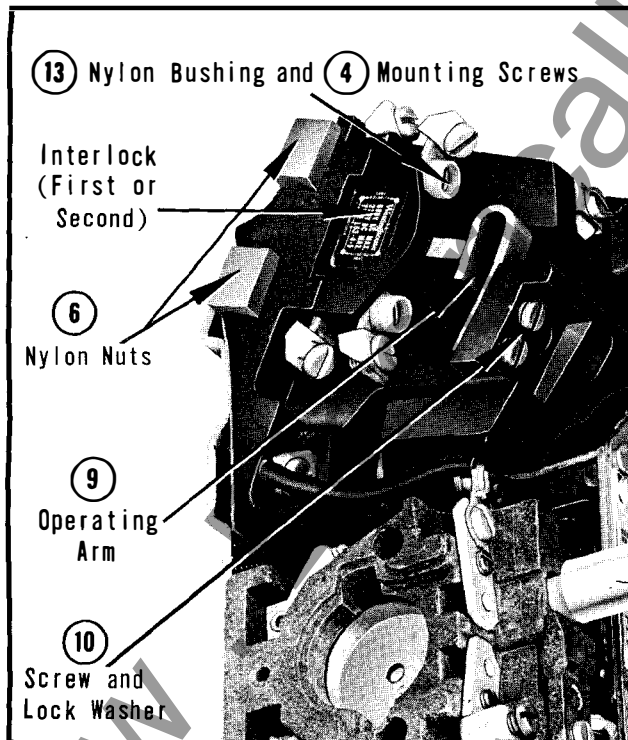

Fig. 2 - Left and Right Hand Mounted Standard Interlocks - Size 0 Life-Line Starter
2. Insert into base slot the respective nylon nuts (6). (See Figs. 2 and 3)
3. Mount interlock unit only on the contactor base as shown in Figs. 2 and 3. Interlock mounting screws (4) need not be tightened excessively, as the nylon nut provides positive locking.
1. Loosen mounting screws (4) and discard nylon nut (6) from "first" or "second" Universal interlock. See Figs. 2, 3, 4 and 5.
a second interlock is desired, use the correct size Universal interlock kit (Table 1) and mount the interlock on the right side of the contactor or starter as shown in Figs. 2 and 3.
2. Place interlock assembly on contactor base (as shown in Figs. 2 or 3) making sure that spring (A) in Fig. 6 does not interfere with movement of plunger.